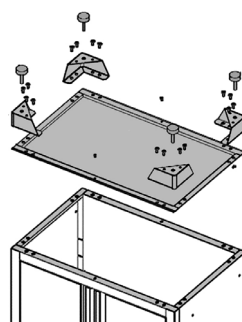

Figure 5
9. Install each mounting frame (#9) through the bottom panel (#8) and into the four panels with four M6 x 16 screws (#10). Fully tighten these screws (Fig. 5).
10. Screw an adjustable leg (#11) into each mounting bracket. Only screw half-way in, as you may need to level the cabinet after assembly (Fig. 5).